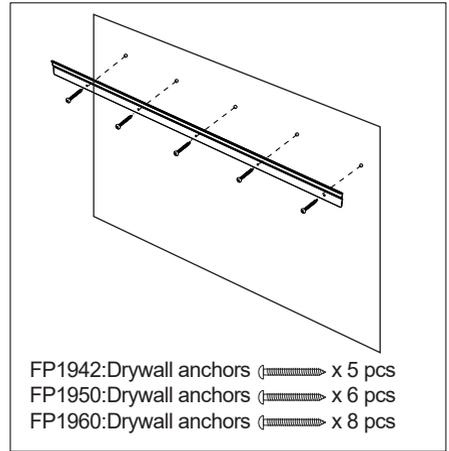

fig.7
2. Align the bracket with the anchors and tighten screws.(fig.7)
6. Align the bracket with the anchors and tighten 5 screws.(fig.7)